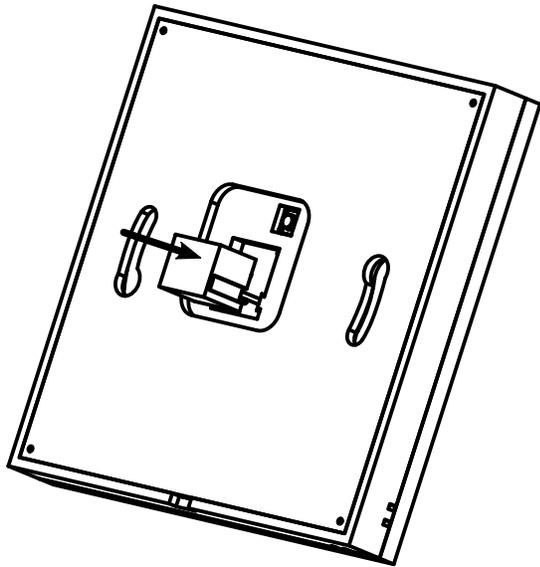

Figure 4. How to Connect the Board to the KNX bus
On the back side, near the middle of the board, there are two pins ② which are used to connect the board to the KNX-bus. Make sure to connect the mating terminal block correctly. A proper enclosure must use the guiding tabs on the terminal block to ensure proper orientation when plugging it in. Figure 4 shows how to correctly connect the switch to the bus. The plus is normally painted red on the terminal block. The outline of the mating terminal block is drawn on the PCB to avoid wrong connections.